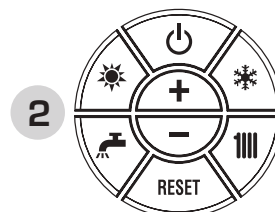

Fig. 23/8
- ANOMALÍA Sonda AUXILIAR “AL 10” (fig. 23/9)